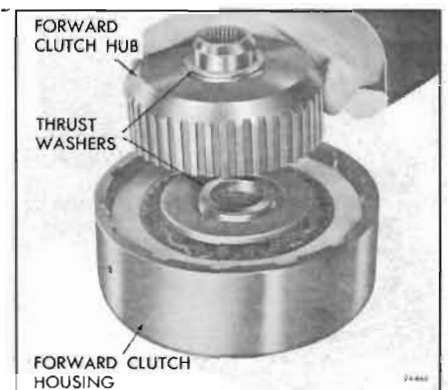

Figure 74-665
9. Install the forward clutch hub washers. Retain with petrolatum. See Figure 74-665.